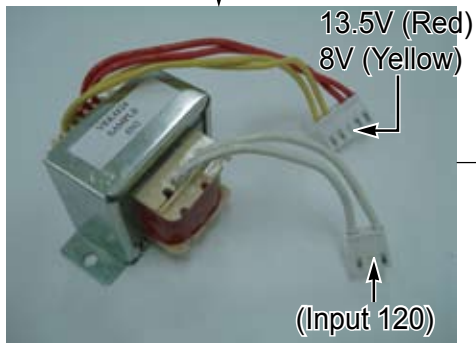

Fig.1 : Low voltage Transformer
* Measure resistance and voltage of Low voltage Transformer (please refer to Fig.1)